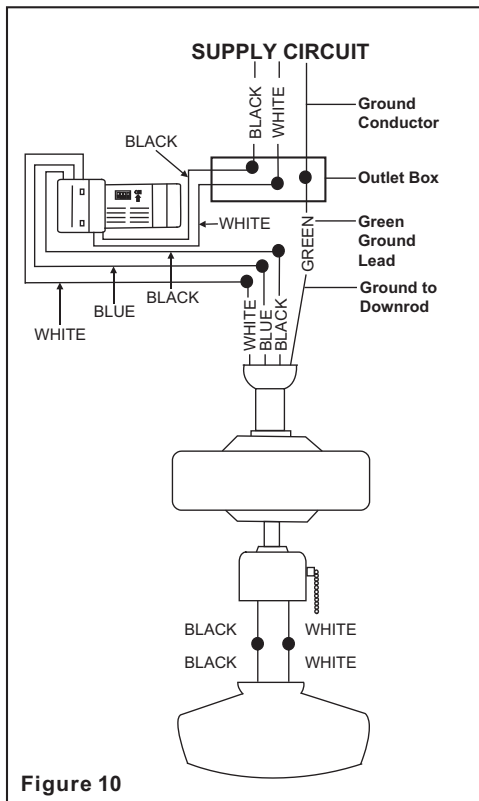

Figure 10
**Step 2.** (Fig. 10) Motor to Receiver Electrical Connections: Connect the Black wire from the fan to Black wire marked "TO MOTOR L". Connect the White wire from the fan to the White wire marked "TO MOTOR N" from the receiver. Connect the Blue wire from the fan to the Blue wire marked "For Light" from the receiver. Secure wire connections with the plastic wire nuts provided.
**Step 3.** (Figure 10) Receiver to House Supply Wires Electrical Connections: Connect the black (hot) wire from the ceiling to the black wire marked "AC in L" from the receiver. Connect the white(neutral) wire from the ceiling to the white wire marked "AC in N" from the Receiver. Secure the wire connections with the plastic wire nuts provided.
**Step 4.** (Figure 10) If your outlet box has a ground wire (green or bare copper) connect it to the fan ground wires; otherwise connect the hanging bracket ground wire to the mounting bracket. Secure the wire connection with a plastic nut provided. After connecting the wires spread them apart so that the green and white wires are on one side of the outlet box and black and blue wires are on the other side. Carefully tuck the wire connections up into the outlet box.